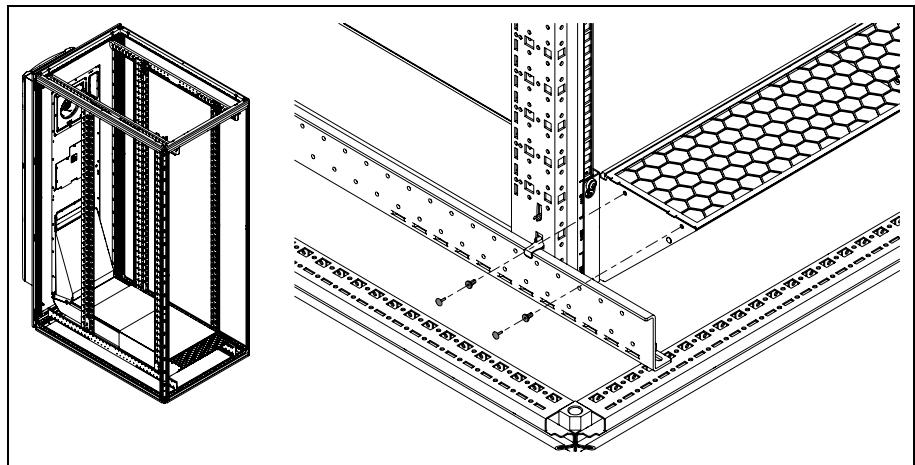

Fig. 24: Insert the split rivets
- Then, secure the protective grille using four split rivets (fig. 24).